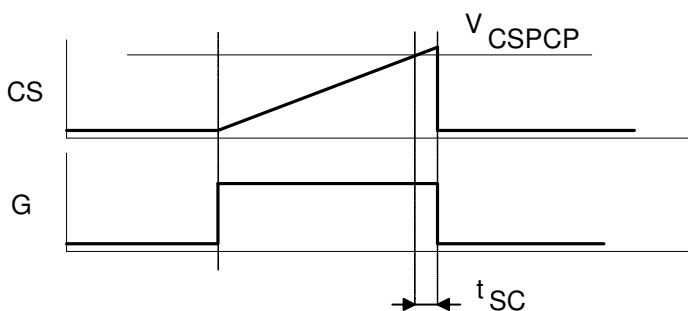

Figure 7: Peak current limit protection
3. Peak current limit protection (PCLP) is activated, when the voltage at pin CS drops below V_{CSPCP} . Short impulses, <300ns, are suppressed with the leading edge time. The driver turns off very fast (t_{sc}) (figure 7).